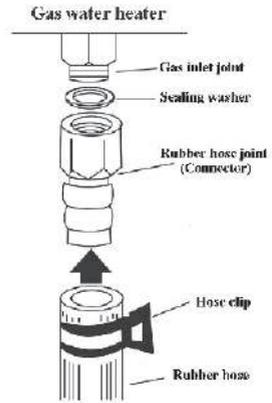

Fig. 7
- When using liquefied petroleum gas(LPG), first remove the Rubber hose joint(connector) from the accessory bag and connect it to the Gas inlet joint (▲ **Note:** be sure to install the sealing washer correctly in order). Then connect with a gas-only rubber hose with inner diameter of  $\Phi 9.5\text{mm}$ , one end into the outlet of the gas regulator valve of the LPG tank, one end inserted into the Gas inlet joint of gas water heater, and tightened with the Hose clip(Fig7/8).